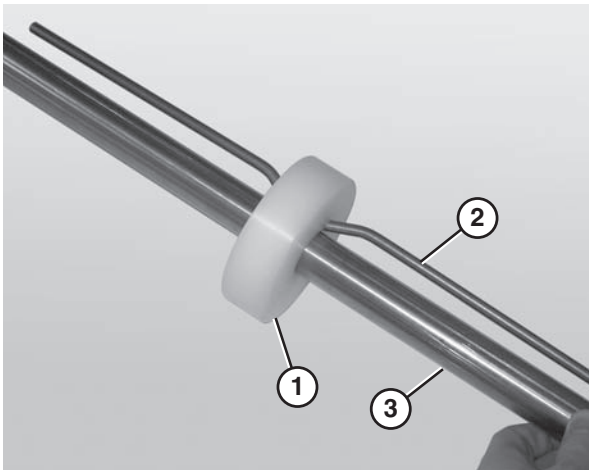

Figure 70
1. Place the idler puck (Figure 70, item 1) at the center of the bent retaining bar (Figure 70, item 2).
2. Slide the idler puck onto the idler shaft (Figure 70, item 3). Make sure to center the idler puck.